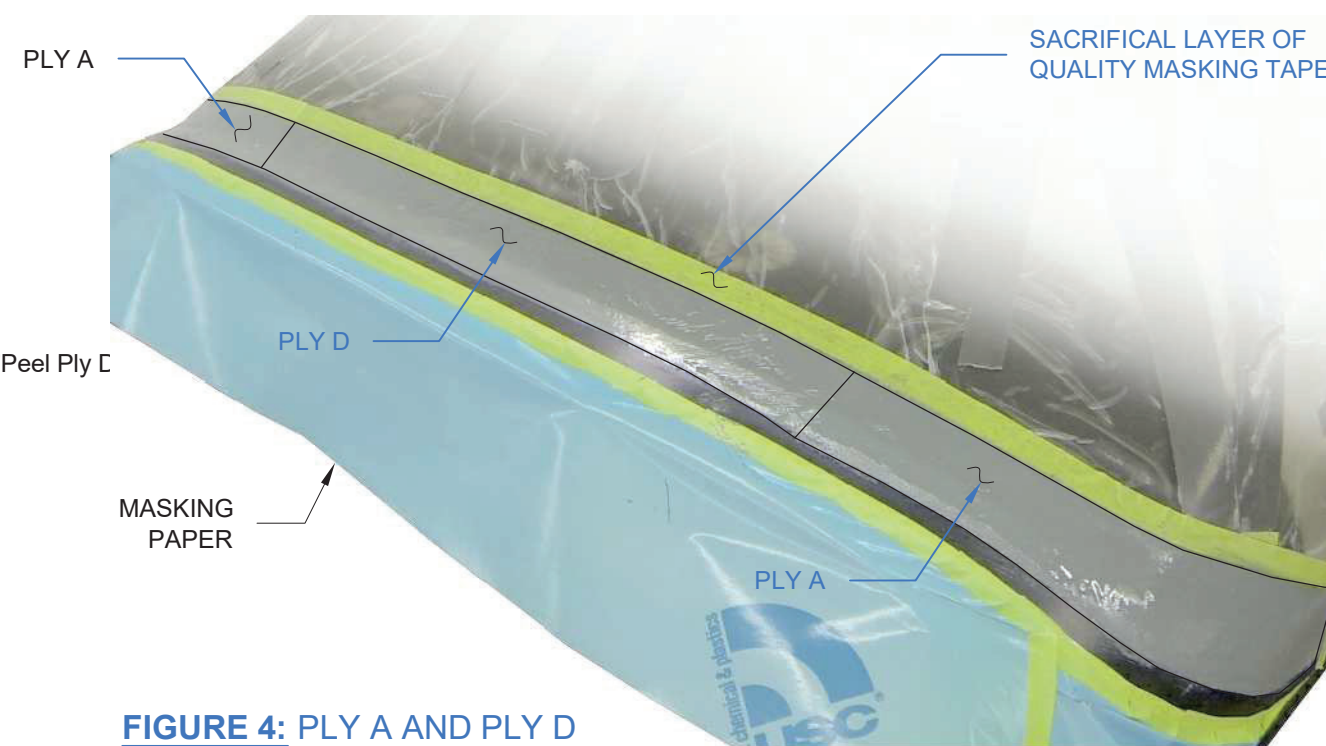

FIGURE 4: PLY A AND PLY D APPLICATION
Step 9: Protect the canopy skin with masking paper as shown in Figure 4.
Step 17: Apply a coat of dyed resin to the area where Ply A and Ply D will be applied. See Figure 4. Peel off the inner surface layer of food wrap and apply the two examples of Ply A to the left and right sides of the Canopy Assembly as shown in Figure 4. Position the upper and aft edges of Ply A as closely as possible to the edge of the sacrificial layer of masking tape without overlapping. If Ply A has been cut slightly too big, it is preferable to have overlap on the forward line of electrical tape rather than overlapping the aft line of sacrificial masking tape.
Step 20: Apply a coat of dyed resin to the area where Ply D will be applied. See Figure 4. Peel off the inner surface layer of the food wrap and apply Ply D to the Canopy Assembly as shown in Figure 4. Position the aft side of Ply D as closely as possible to the edge of the sacrificial layer of masking tape without overlapping. If Ply D has been cut slightly too big, it is preferable to have overlap on the forward line of electrical tape rather than on the aft line of sacrificial masking tape. Butt one side of Ply D against Ply A, then trim any excess so the remaining side is also butted against or slightly overlapping Ply A on the opposite side.